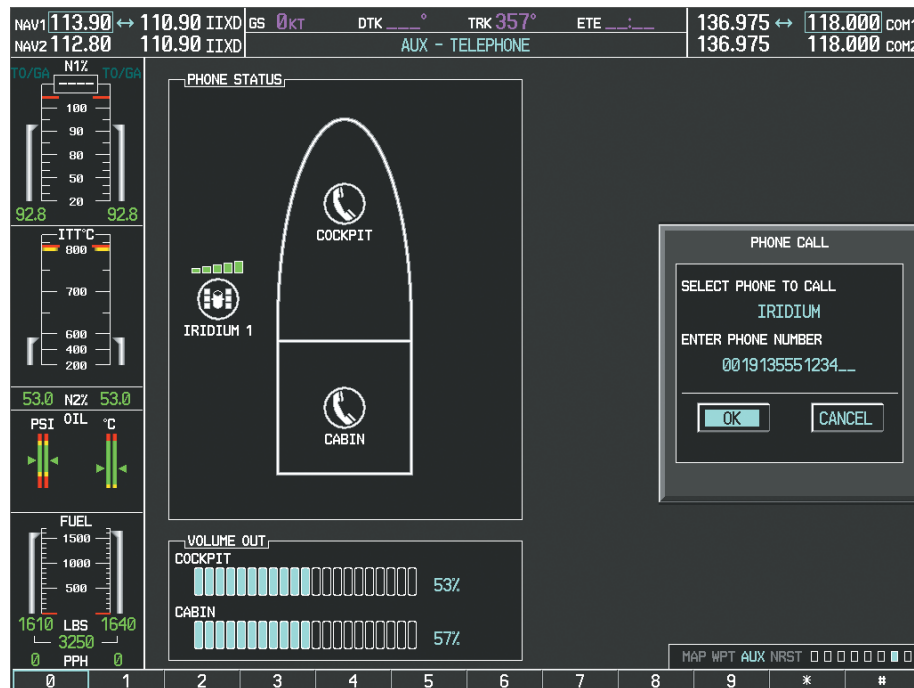

Figure 8-84 Make the Call
- 6) Press the **ENT** Key. 'OK' is highlighted as in Figure 8-84.